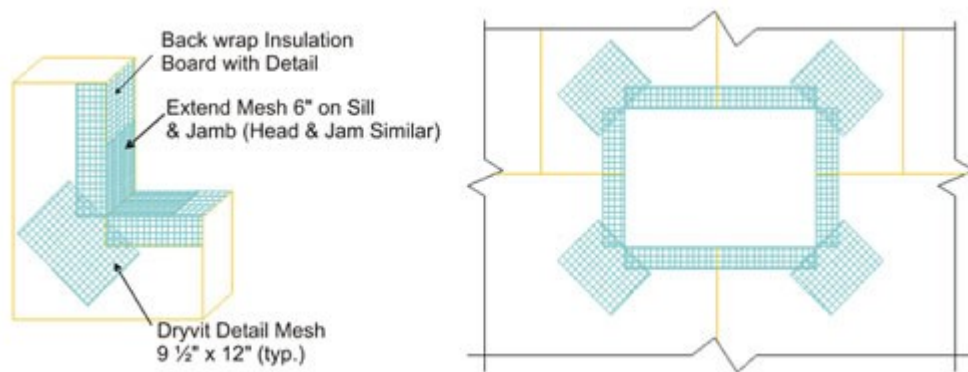

Figure 10: Rough Openings
- 18) Corners of all openings such as windows, doors, mechanical equipment and all penetrations shall be reinforced with Detail Mesh placed diagonally to the opening as illustrated in Figure 10.